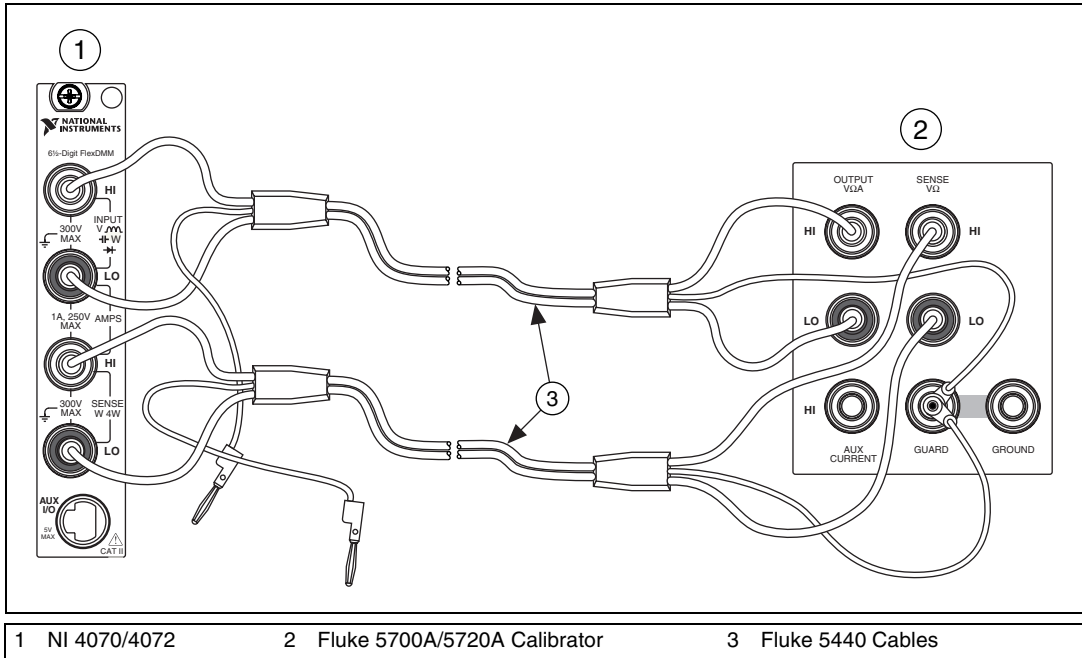

Figure 4. Cable Connections for 4-Wire Resistance
2. Fasten the connectors on one end of each Fluke 5440 cable to the appropriate banana plug connectors on the NI 4070/4072. Fasten the connectors on the other end of each Fluke 5440 cable to the appropriate calibrator binding posts. Figure 4 shows the Fluke 5440 cables. Table 7 lists the cable connections.